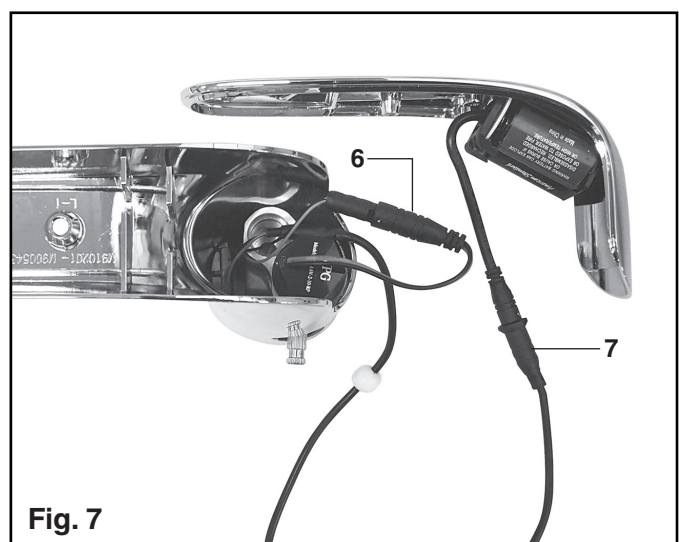

Fig. 7
1. Remove COVER SCREW (1) and lift COVER (15) off.
2. Disconnect SENSOR CABLES (6) and (7) from the BATTERY and SOLENOID VALVE. (Fig. 7)
3. Remove the AERATOR RETAINER SCREW (2) and BODY FIXATION SCREW (3). (Do not remove SPOUT TUBE 16)
1. Remove the COVER SCREW (1).
2. Remove the COVER (15).
3. Disconnect the BLACK POWER SUPPLY CONNECTOR (7) and reconnect. Fig. 7.
4. While the SENSOR CONTROL LED (9) is blinking slowly, place your hand 1 - 2 in. (25.4-50.8mm) in front of the sensor.
6. Once the SENSOR CONTROL LED (9) begins to blink again, remove your hand from the detection zone. When the flashing stops, the detection distance is set.
7. Reassemble the COVER (15) and secure it with COVER SCREW (1).